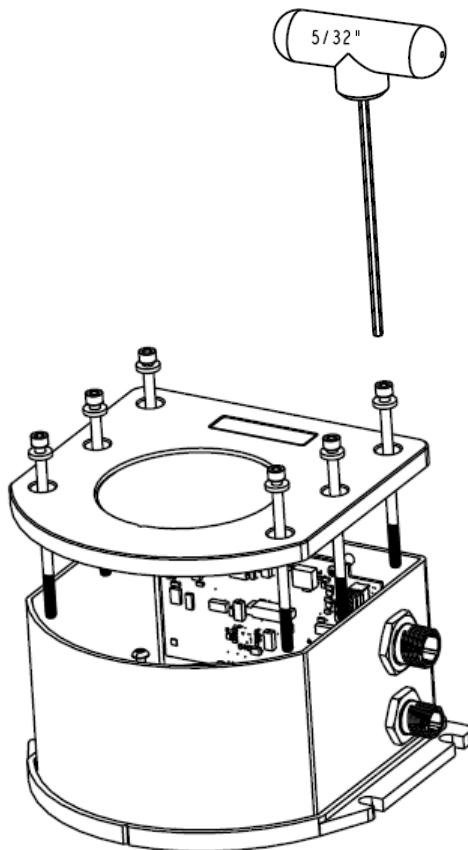

Figure 24: Bolts and Allan Key
1. Remove the top cover's six bolts using an allan key, see *Figure 24*:
Use an allen key to align the long bolts with the threaded holes in the base, see *Figure 24* on *page 136*. Apply threadlock to threads. Finger tighten all bolts and torque them in a cross pattern to 12 in-lbs. The fully assembled IMU enclosure is shown in *Figure 30* below.